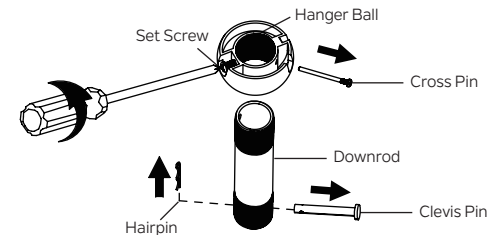

Fig. 8
Step 2. Remove the hairpin and clevis pin from the downrod assembly, retain for later use. Remove the hanger ball from the downrod assembly by loosening set screw, removing the cross pin, and sliding ball off of the rod. (Fig. 8)